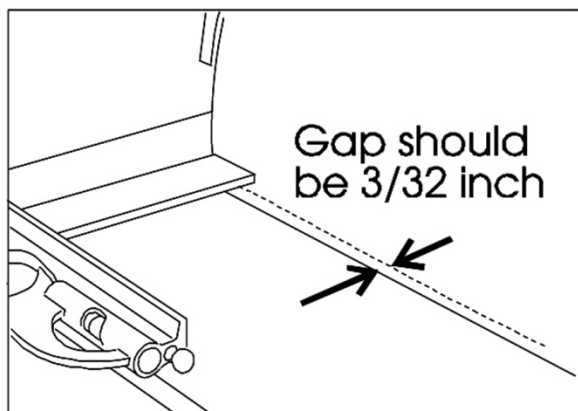

Figure 18: Table-to-disc gap measurement.
4. Slide the disc in or out along its shaft until the table-to-disc gap is  $3/32$  inch (See Figure 18).